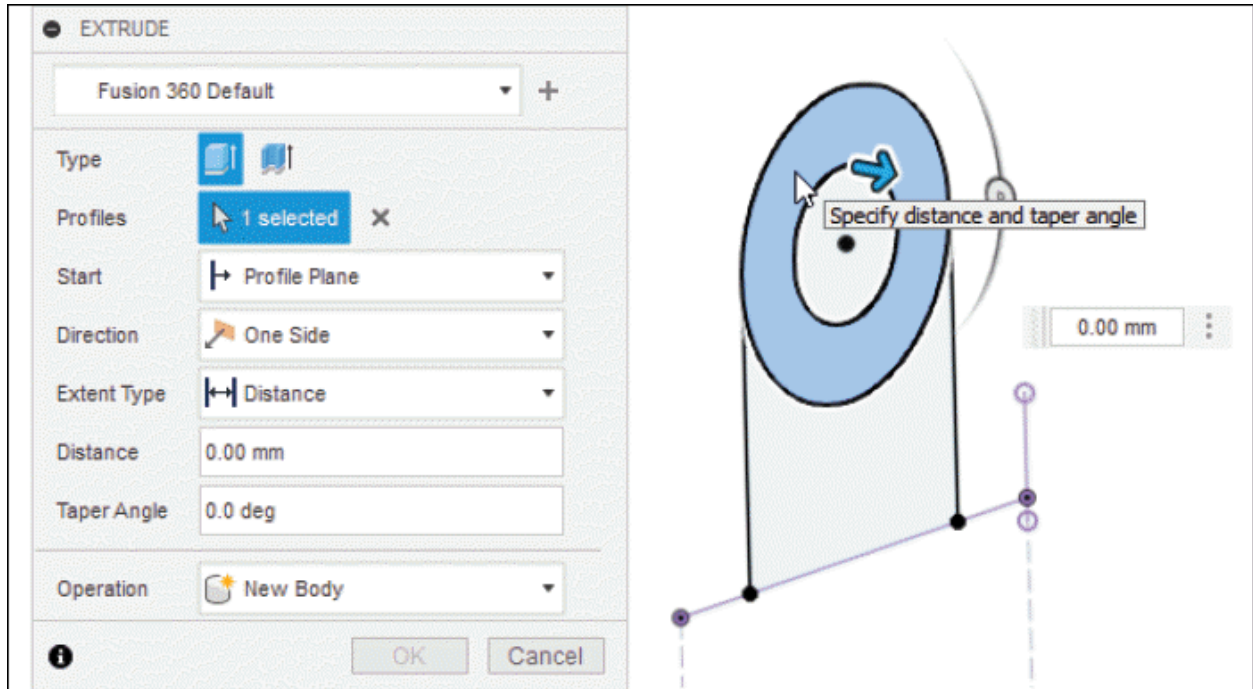

Figure-54. Selecting the sketch to extrude
- The **Select** button of **Profile** section is active by default. Select the sketch to extrude as shown in Figure-54.
- Specify the parameters as shown in the Figure-54. Click in the **Distance** edit box and enter **-14** mm as distance of extrusion.